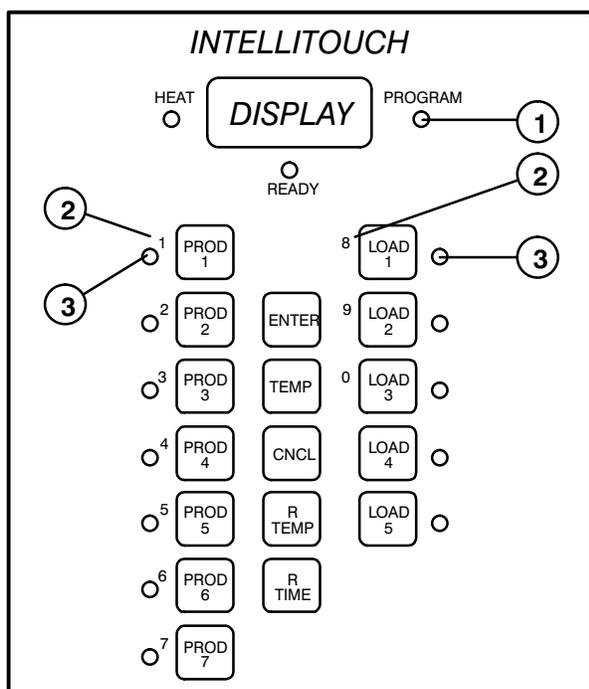

FIGURE 10
NOTE: The LED's (3) are located next to the product and load keys. The LED identification numbers (2) are located to the left of the product and load keys. See FIGURE 10.